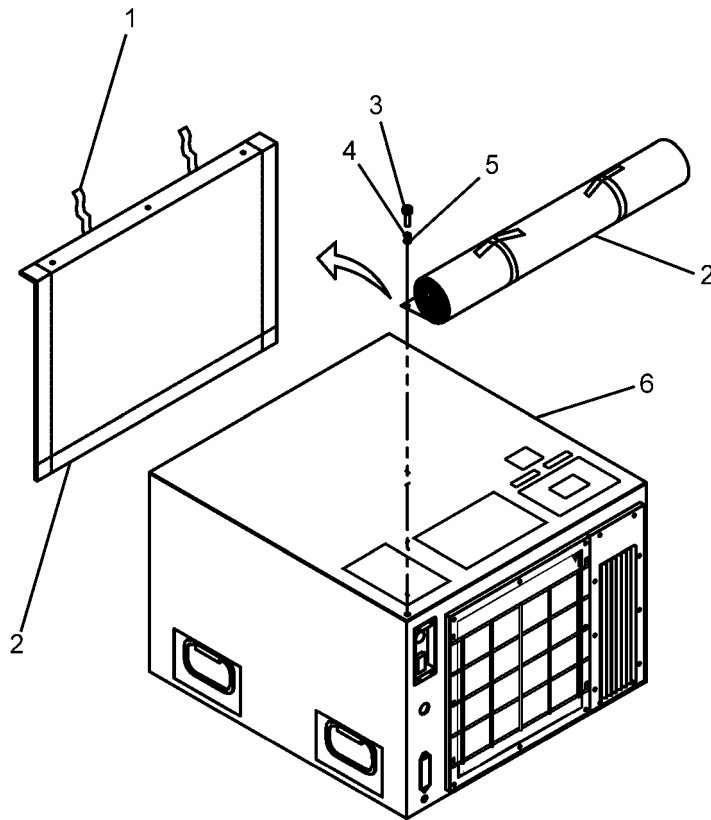

Figure 1. Canvas Cover
1. Loosen tie strap (1) on the canvas cover (2) (if rolled) and unroll cover. See Figure 1.